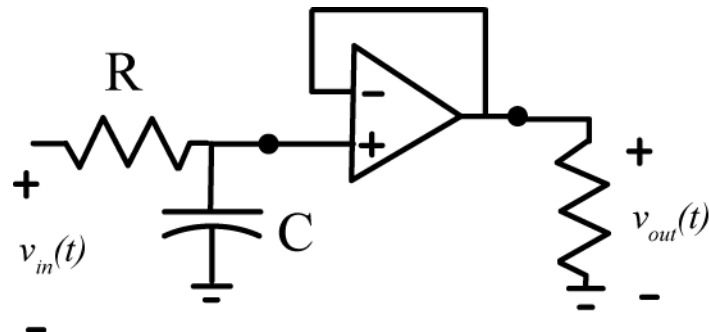
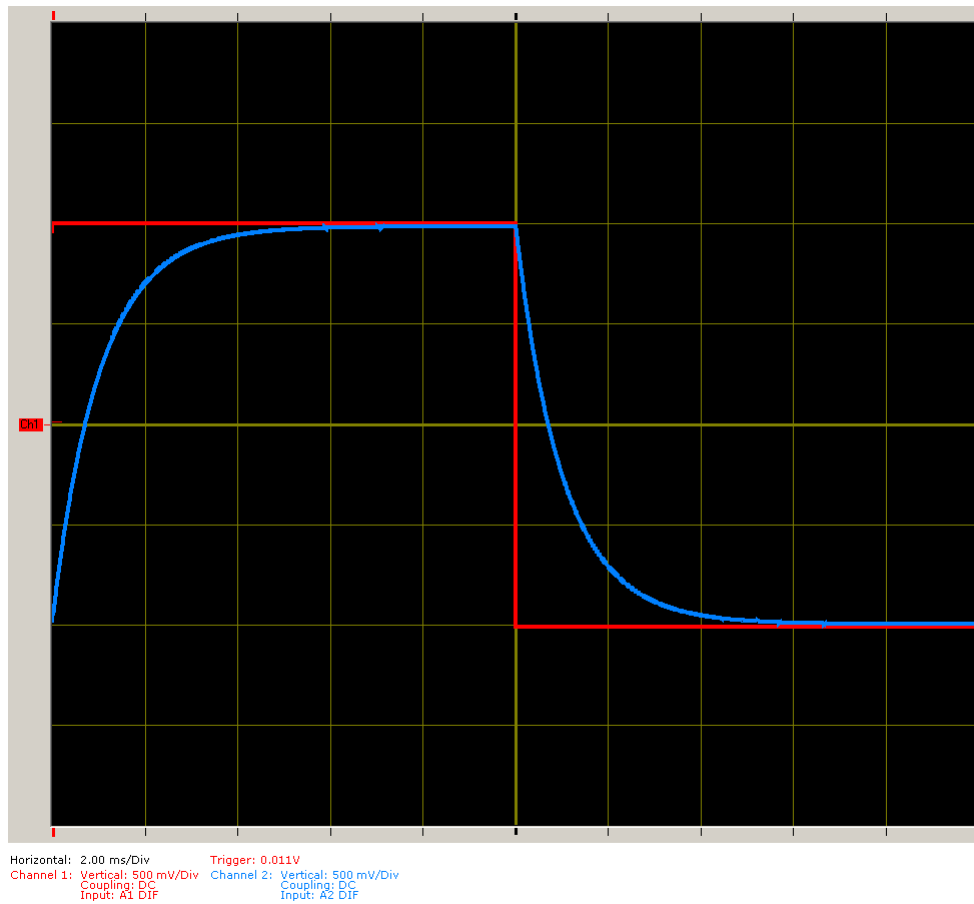

Figure 6. The system we are trying to control, or the plant. There is an isolating amplifier after the plant to avoid loading effects.
Figure 7. Open loop response of the plant. The output is measured across the load resistor connected to the isolating amplifier.
6) Build the system, or plant, shown in Figure 6. In this figure we have included a load resistor to measure the output of the isolation amplifier. *Note that the positive terminal is not connected to ground in this circuit!* Measure the output as the voltage across the capacitor. This is the response the system for an open loop configuration. You should get a response something like that shown in Figure 7. Do not disconnect the load resistor yet.
7) Connect all of the subsystems together, but do not connect the feedback loop. Your output should be very nearly the same as in Figure 7.